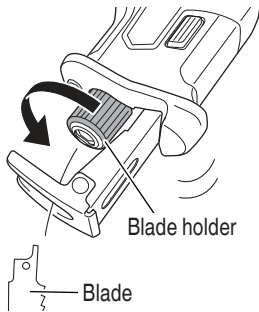

Fig. 12
- After turning the blade holder, point the blade downward. The blade should fall out on its own. If the blade fails to fall out, pull it out by hand. (Fig. 12)